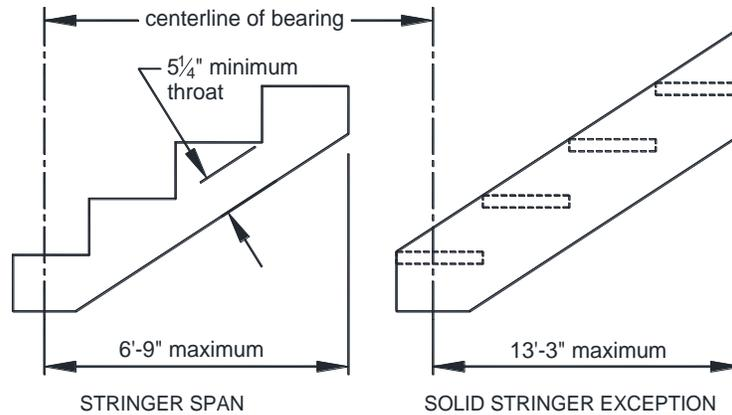

FIGURE 40: MAXIMUM STRINGER SPAN LENGTH
- Stringer span length is measured using the horizontally projected distance between the bearing at each end and shall not exceed the dimensions shown in FIGURE 40.
SOLID STRINGER EXCEPTION: Solid stringers of stairways with a width equal to 36 inches shall be permitted to have a span as shown in FIGURE 40.
- Throat size of cut stringers shall not exceed the value shown in FIGURE 40.